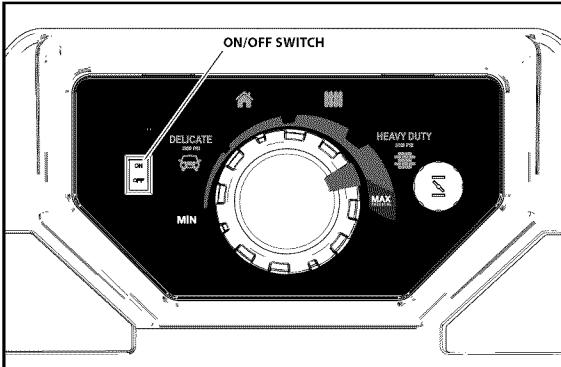

Figure 5-2. ON/OFF Switch
- Turn the ON/OFF switch to the "ON" position (Figure 5-2).